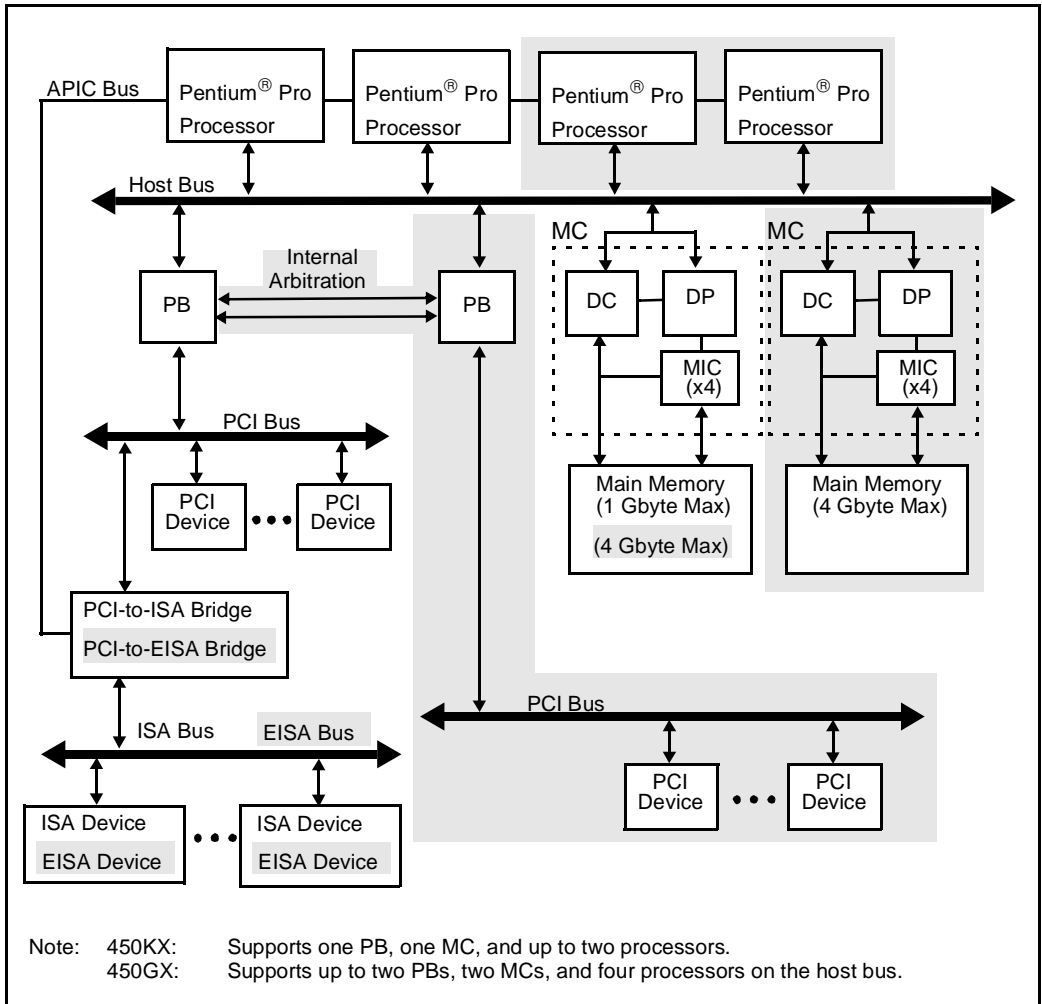

Figure 1. 450KX/GX Simplified System Block Diagram
The 450KX desktop PCIset consists of the 82454KX PCI Bridge (PB) and the Memory Controller (MC). The MC consists of the 82453KX DRAM Controller (DC), the 82452KX Data Path (DP), and four 82451KX Memory Interface Components (MIC). The system configuration using the Intel 450KX PCIset supports one PB, one MC and up to two Pentium Pro processors (Figure 1). An ISA subsystem is also located below the PB. For Pentium Pro processor bus error detection, the 450KX generates and checks parity over the address and request/response signal lines. This feature can be enabled/disabled during system configuration.